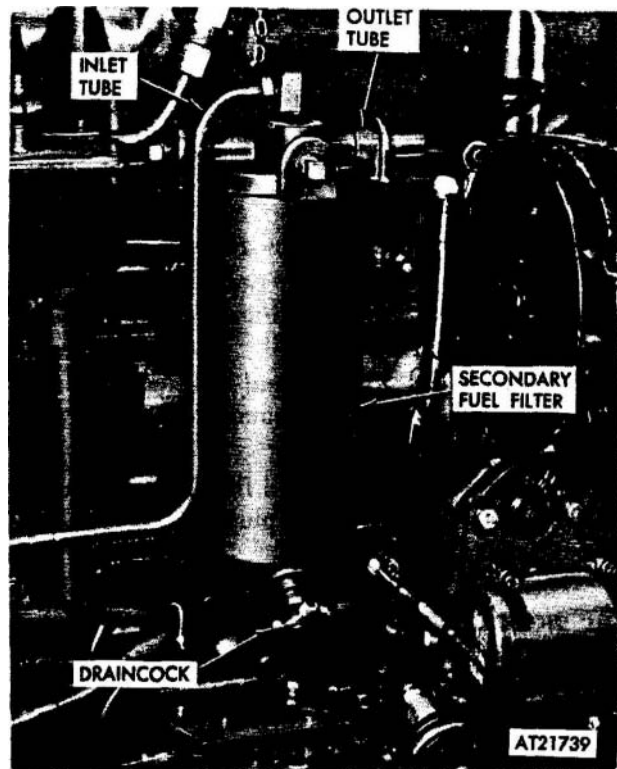

Figure 2-87. Secondary fuel filter.
(1) Open and secure engine cover (refer to TM 9-2320-242-10).
(2) Place a suitable container under fuel filter. Loosen filler plug, open draincock, and allow fuel to drain (fig 2-87).
(1) Attach secondary fuel filter assembly to engine with two bolts and lock washers (fig 2-87).
(2) Apply thin teflon tape (MIL-T-27730A) to threads of two filter cover fittings. Install fittings to filter cover.
(3) Connect inlet-outlet tubes to fittings and secure by tightening nuts on tubes.
(4) Remove filler plug and fill filter with fuel. Install and tighten filler plug. Ensure that draincock is tight.
(2) Place a suitable container under secondary fuel filter. Loosen filler plug, open draincock, allow fuel to drain (fig 2-87).
(1) Insert new cover screw gasket under head of cover screw (fig 2-87).
(2) Insert filter element into shell and insert gasket in recessed rim of shell.
(3) Attach shell to cover and secure with cover screw. Ensure that cover screw and shell gaskets are in place.